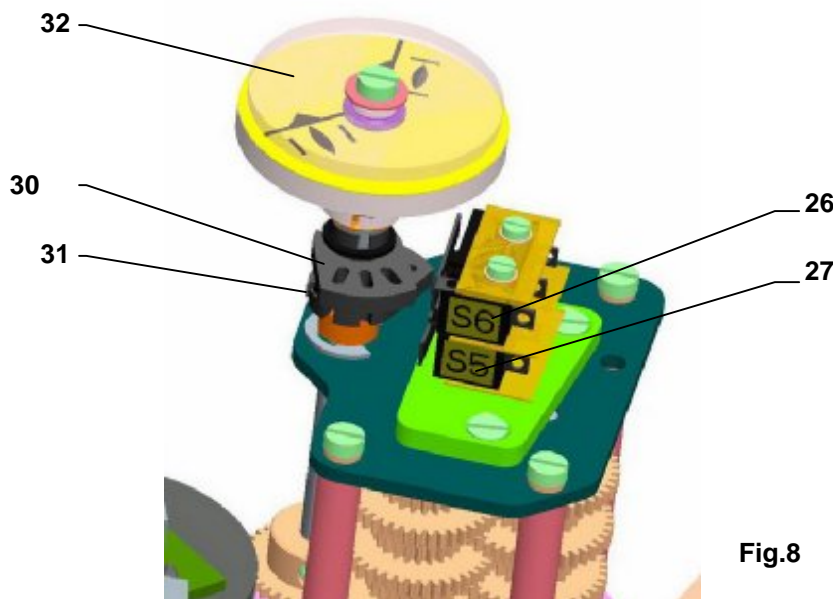

Fig.8
4.3 Signaling switches adjustment (S5,S6) (Fig. 8)
4.4 Position indicator adjustment (Fig.8)